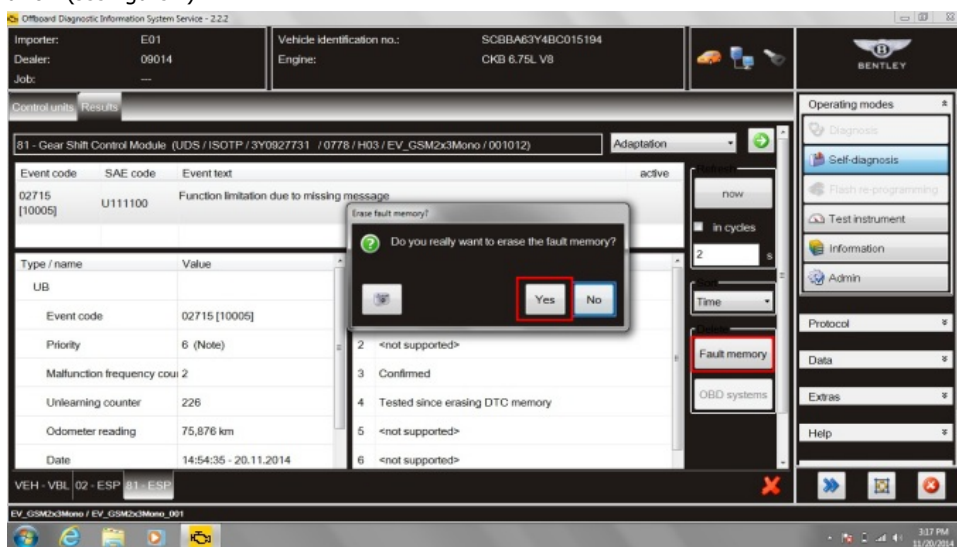

Figure 5
6. Within *Results* the code will be detailed. Select – *Fault memory* and *Yes* to erase the fault memory (see Figure 5)